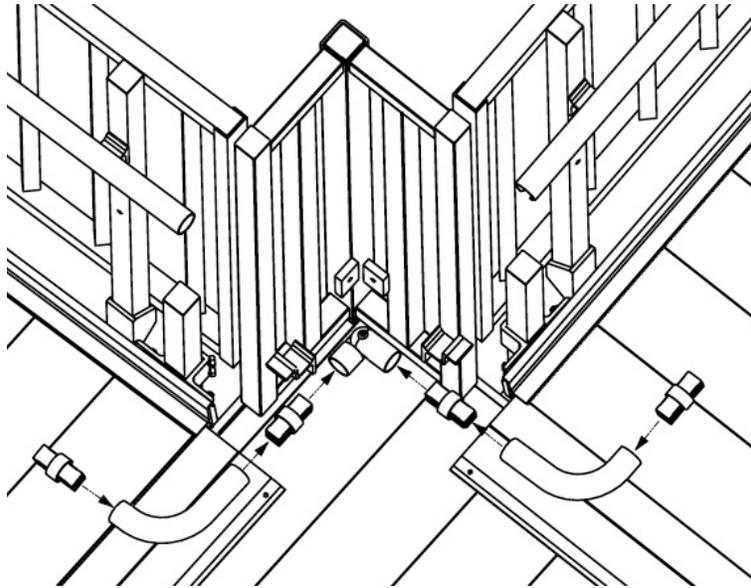

**FIG. 37**
- 8.6 At a turn-back platform on the inside, turn-back side (FIG. 37):